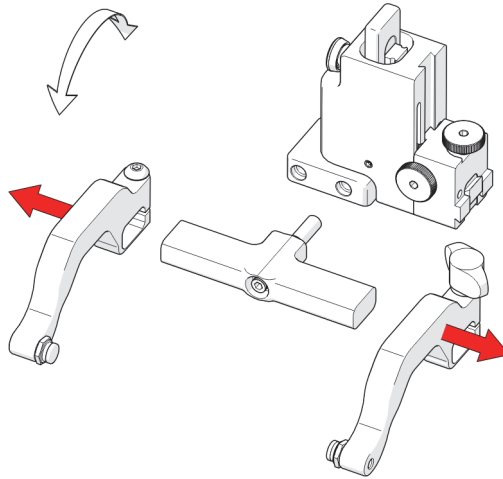

Figure 2-85 Remove probe holder arms
3. Loosen the arm clamp screw and the probe holder arm adjustment knob, allowing removal of the probe holder arms (see Figure 2-85 on page 112).